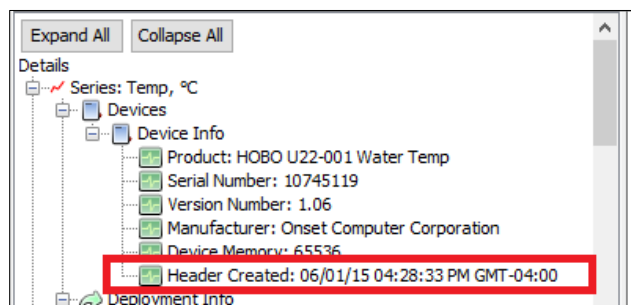

**Figure 4.** The “Header Created” field shows the time and date stamp when the logger was initially created. This is the Date of Issue.
- Under Series → Devices → Device Info, the bottom field is titled “Header Info” with a date and time (Figure 4). This date is when the logger was created and activated at the factory and is entered into the “Date of Issue” field for the appropriate logger in the Field Log.